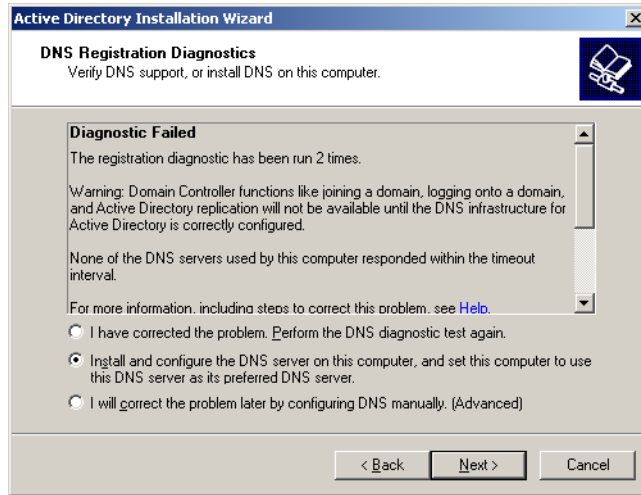

Figure D-14 DNS registration diagnostics screen
16. If the **DNS Registration Diagnostics** screen is as shown in figure D-14, click **Install and configure the DNS server on this computer**. Click **Next**
Note: The screen shown in figure D-14 will be displayed if you are configuring a server which has not had a previous DNS server installation. If you see a different screen at this point, check to make sure that the server has not been a previously configured as a DNS server.